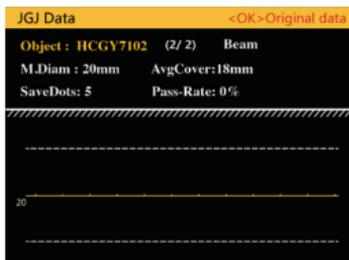

Fig. 2-26
JGJ data browsing (Figure 2-26), the screen shows browsing component number and the left of the screen shows the number of stored components and the orders of the components in all already stored components, rebar diameter, stored measuring point number as well as the qualified rate of the design thickness of measured points. The bottom of the screen shows the red display of thickness which is lower than the qualified range when the measuring point is distributed around the designed thickness, and the yellow display of the thickness which is higher than the qualified range. The invalid measuring points are displayed
in grey color (refers to the point whose difference of two measurement results is above 1). The screen can display at most 10 measuring points, press (◀) and (▶) to see all measuring points as shown in Figure 2-26.
On the interface of Figure 2-26, press (OK) or (Fn) to see original data of the measuring points as shown in Figure 2-26.